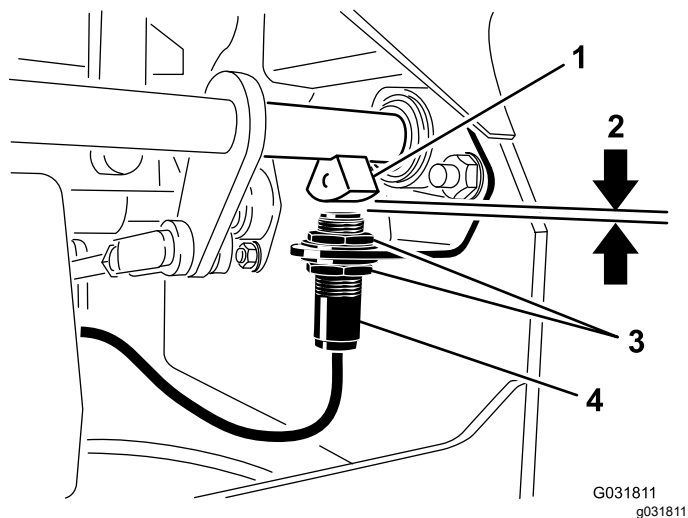

Figure 51
4. Move the switch up or down on the bracket until the distance between the brake-shaft sensor and the switch plunger is 4 mm (5/32 inch) as shown in Figure 51.